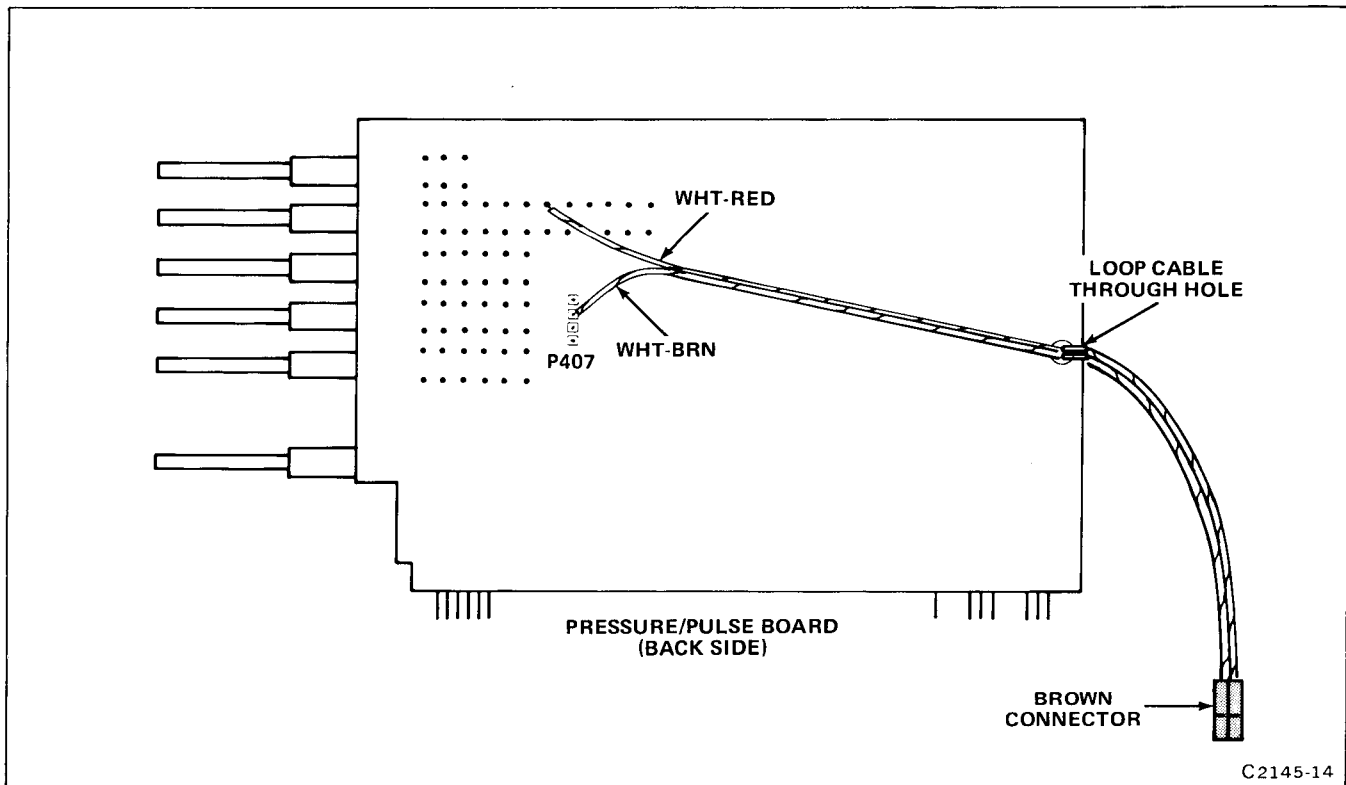

Figure 1-11. Adding 2-wire cable to 414 Pressure/Pulse board.
2. Install 2-wire cable (with brown connector) on Pressure/Pulse board as shown in Figure 1-11.